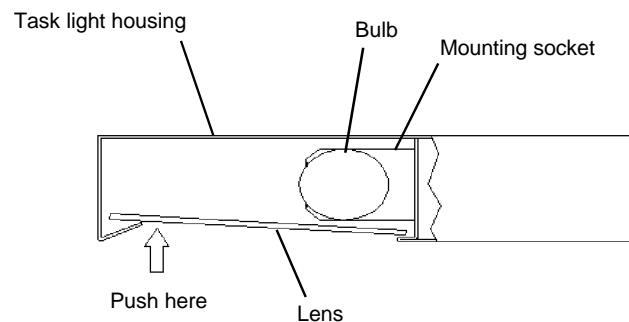

Figure 8. Removing lens and bulb
2. Remove the lens and bulb from the Task Light . To remove the lens, push it up near the front edge of the Task Light fixture. See **Figure 8**. Remove bulb by rotating it in either direction and then pulling it away from the mounting sockets.